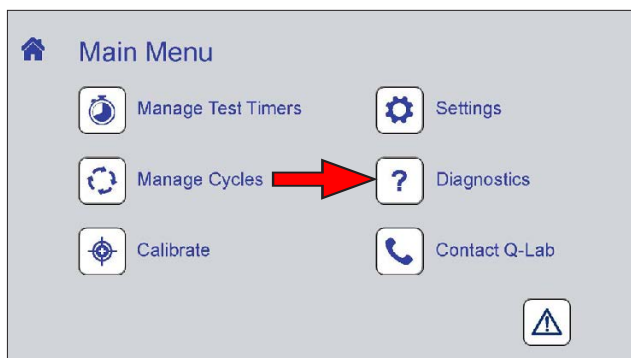
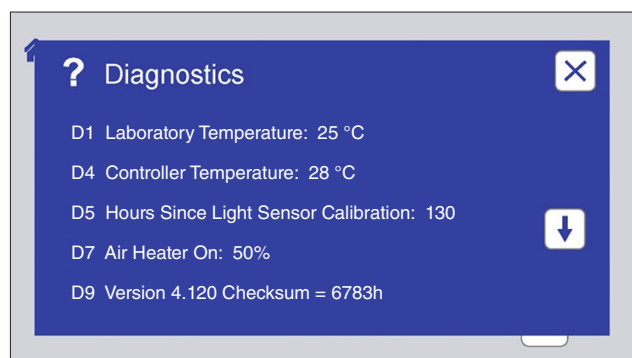

Figure 10.8a: Touch the Diagnostics icon on the Main Menu screen to display diagnostic information.
Figure 10.8b: The Diagnostics screen displays current machine operating conditions.
- On the Main Menu screen, touch the Diagnostics icon (Figure 10.8a) to display the Diagnostics screen (Figure 10.8b).